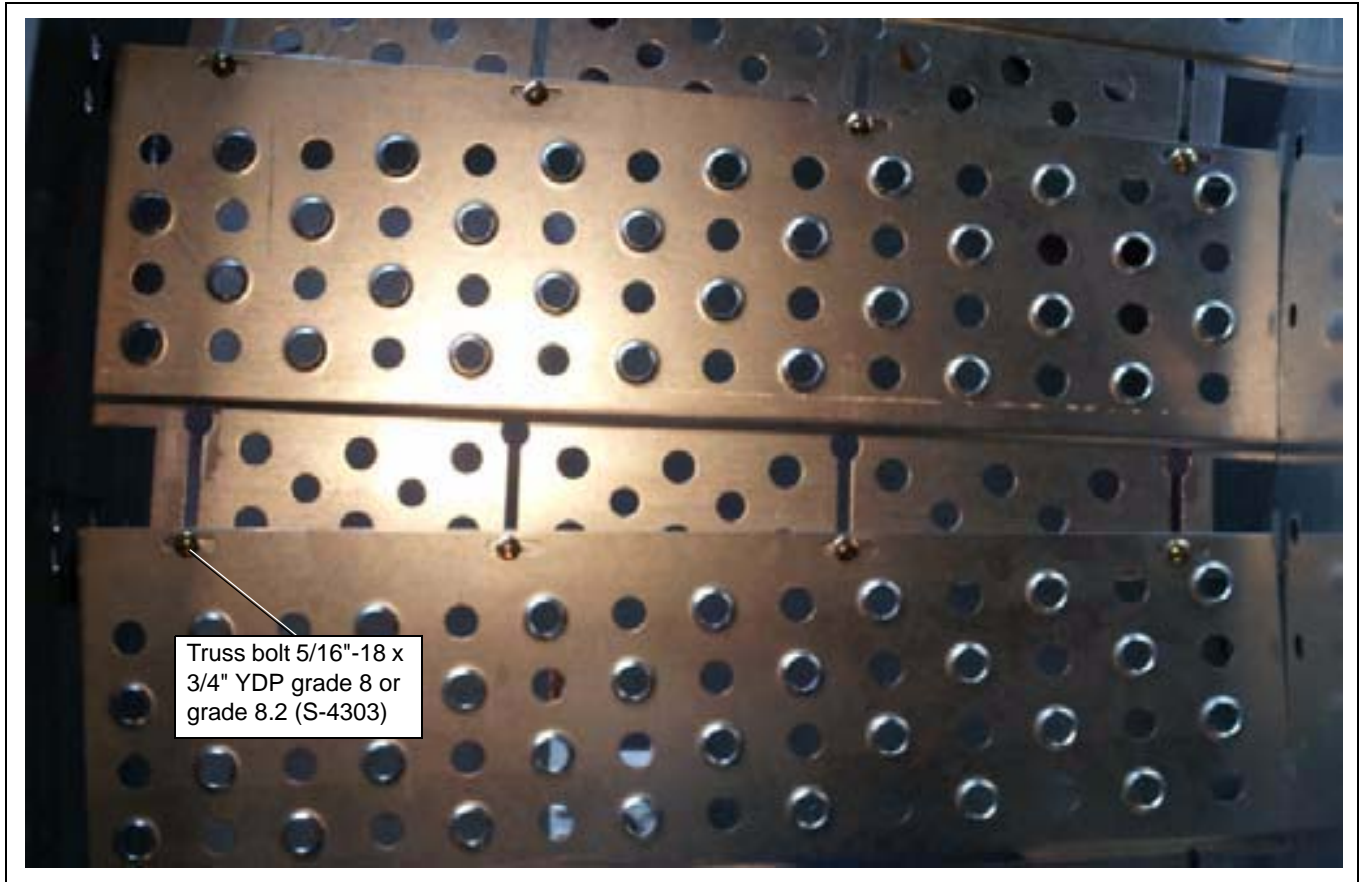

Figure 4N
5. Each plank should be overlapped at the edges and bolted with 5/16"-18 x 3/4" YDP grade 8 or grade 8.2 bolts (S-4303) and 5/16"-18 YDP grade 2 nuts (S-3611). (See Figure 4N.)